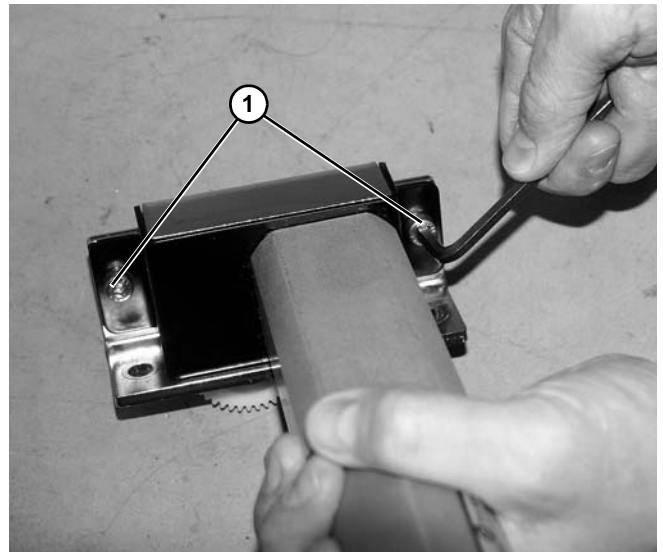

Figure 76
4. Remove two screws (**Figure 76, item 1**) holding cover to motor bracket.